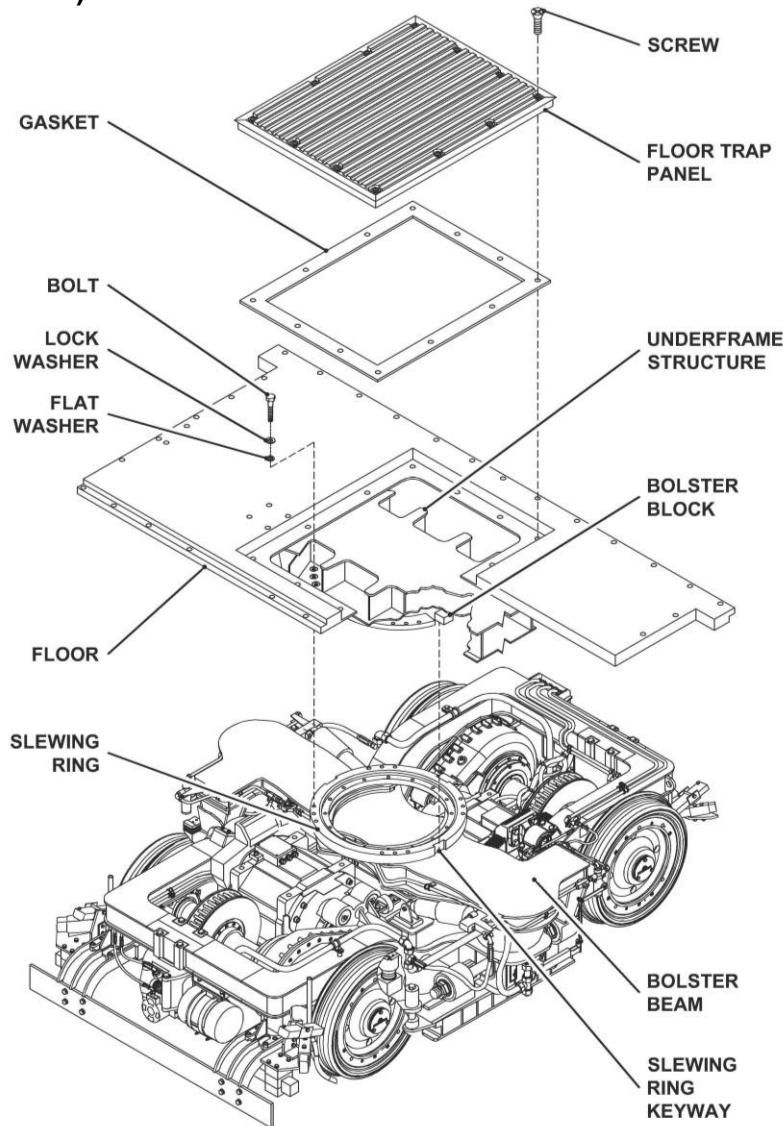

Figure 11 - TRUCK-CARBODY STRUCTURE ACCESS AND CONNECTION
- a. **Truck-Carbody Connection** (refer to previous Fig 11)